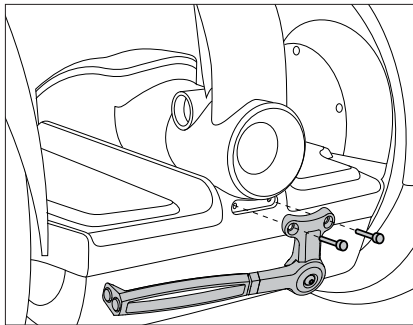

Figure 2. Attaching the Parking Stand
3. Place the Parking Stand over the Front Trim so that the holes align. **See Figure 2.**
4. Thread the (2) 14 mm long fasteners, provided with this kit, through the Parking Stand and into the Front Trim. **See Figure 2.** Using a 4mm hex wrench torque fasteners to 1.5 N-m (13 in-lbf).